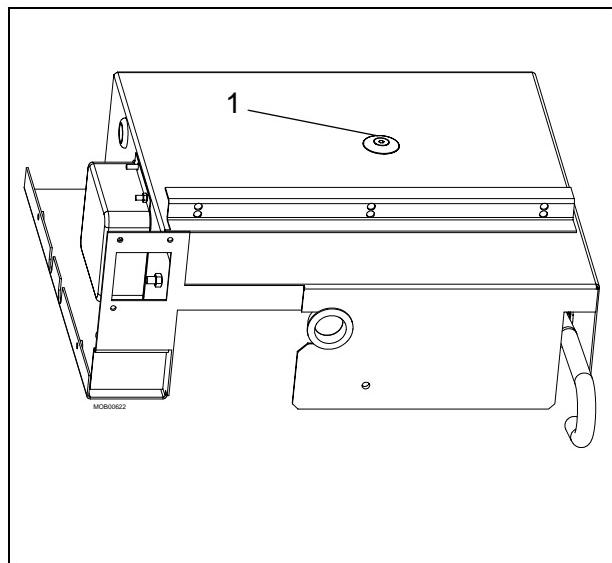

Fig. 8
- Remove the securing screw (pos. 1 / Fig. 8)
- Reinstall the securing screw (pos. 1 / Fig. 8).